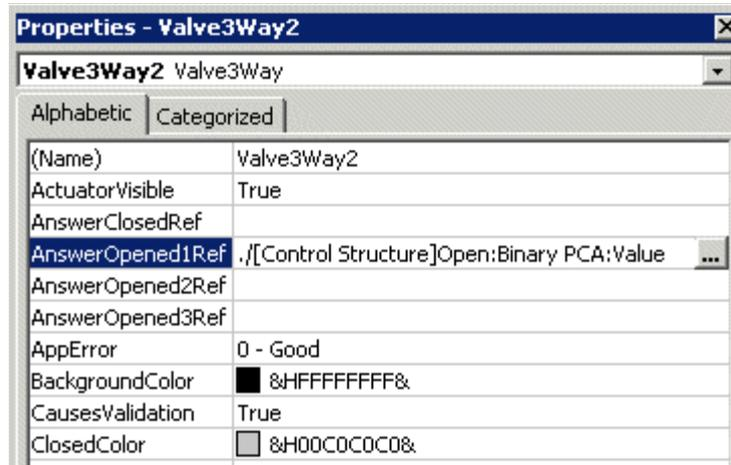

Figure 123. Creating a Valve3Way Element
7. Select the **Valve3Way Element**. Via the Properties window, and connect the **AnswerOpened1Ref** property to the process signal corresponding to the signal indicating that the valve is open. See Figure 123.